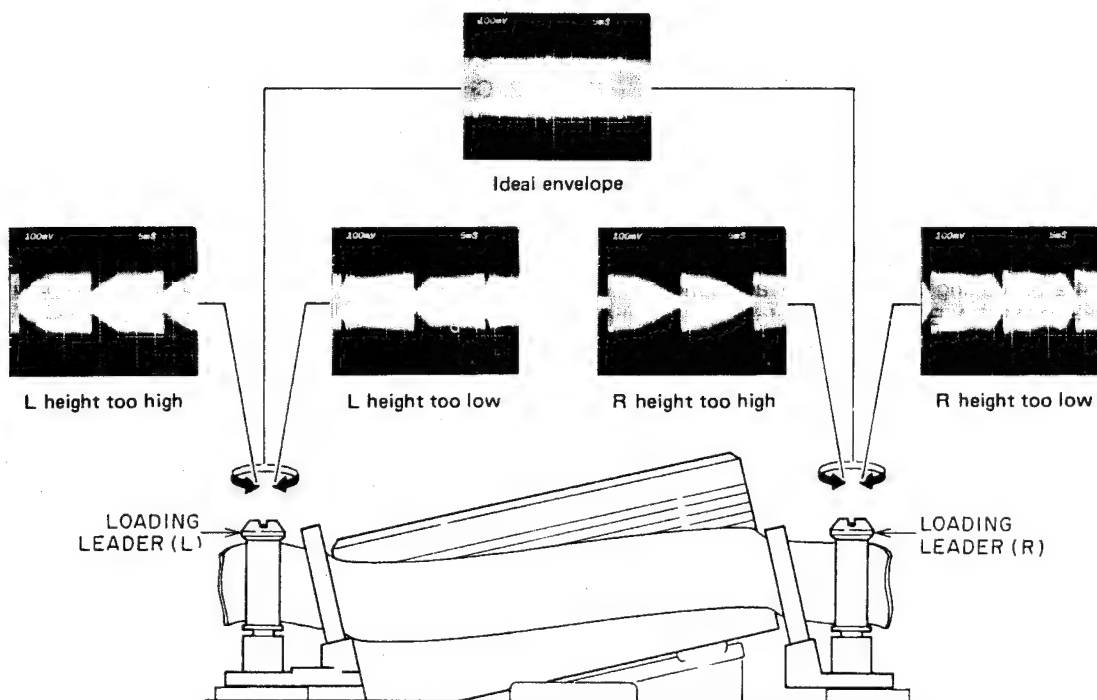

Fig. 4-5
2. Connect an oscilloscope's CH-1 to TERMINAL PCB P27 ① pin (PB ENVE) and CH-2 to ② pin (SWP) for triggering.
4. Turn the LOADING LEADER (T) and (S) head individually to obtain a flat RF envelope, as the ideal envelope shown in Fig. 4-5.